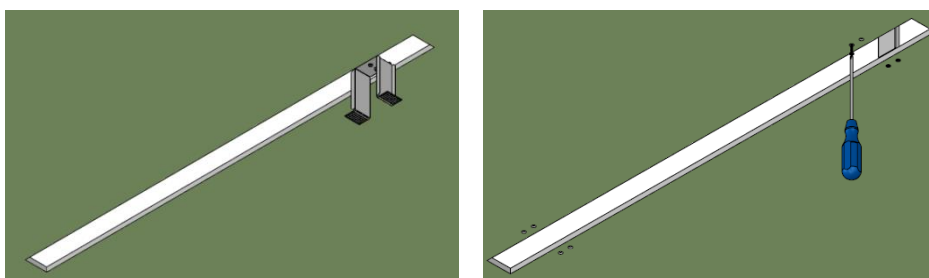

Fig.4-5 Brackets installation
- e) Space the mounting brackets accordingly to the table, fix the brackets to the ceiling (fig.4-5);